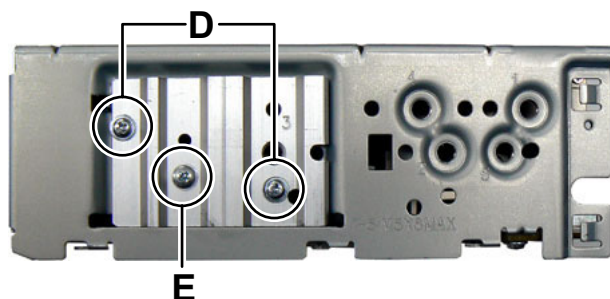

Fig.3
3.1.3 Removing the Side plate (See Fig.3)